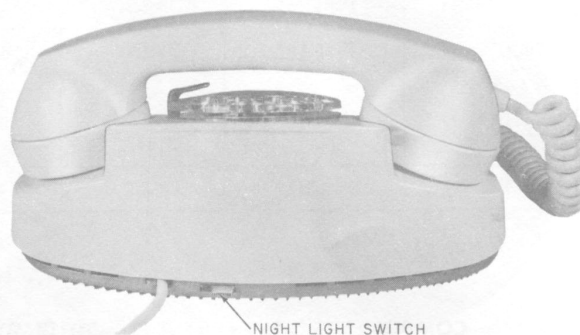

Fig. 2—700-Type Telephone Set, Rear View
2.01 These sets are equipped with a concealed lamp which illuminates the dial when the handset is removed. This lamp also serves as a night light under control of a slide switch located in the base at the rear of the set (Fig. 2).